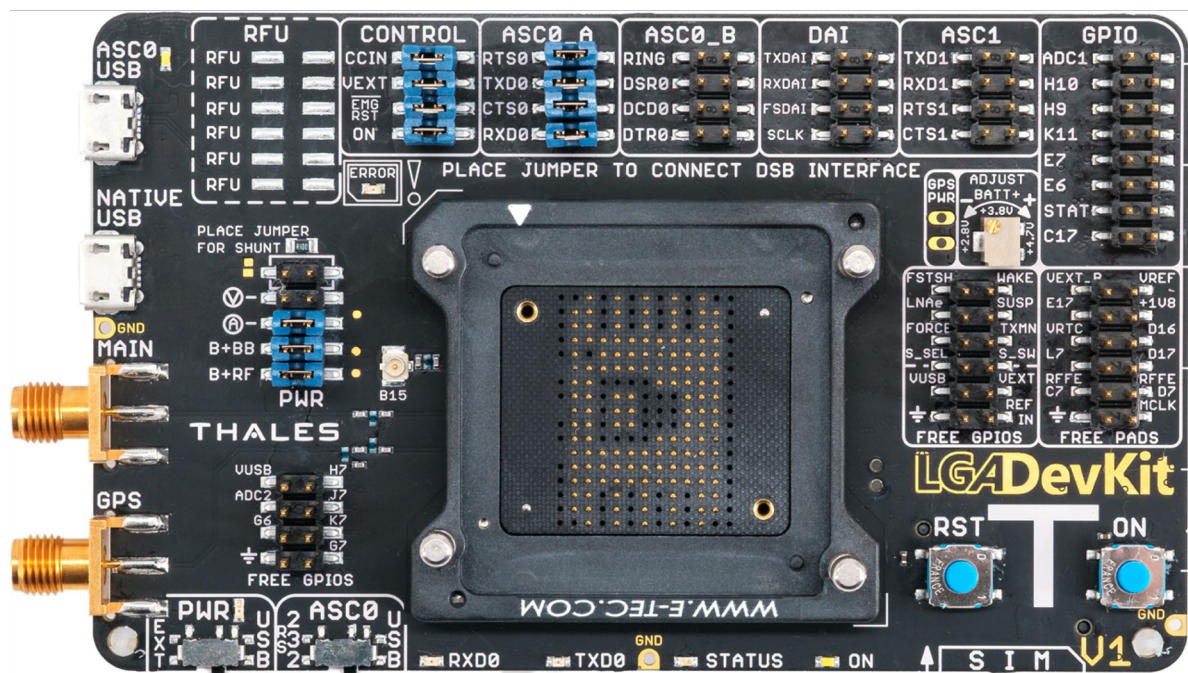

Figure 6: Default jumper and switch configuration
- Ensure that all jumpers and slide switches on the LGA DevKit are set to their default positions as show in Figure 6 and in [\[5\]](#).
- Insert the (U)SIM card into the SIM card reader.